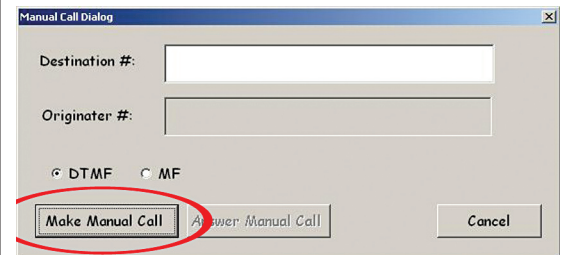

Figure 3.1.11
10. Without leaving the main test window use the 'Span' pull down menu in the upper left hand corner to switch span selection back to PCM 1, Channel 1. Click the "Manual" button. This action launches the "Manual Call Dialog" box. Because the selected test on PCM 1, Channel 1 is a director only the "Make Manual Call" button is active (see figure 3.1.11). To manually place the Send/Measure Tone test call click the "Make Manual Call" Button. To run the tests, press the "RUN" button on PCM 1, Channel 1 and PCM 2, Channel 1.